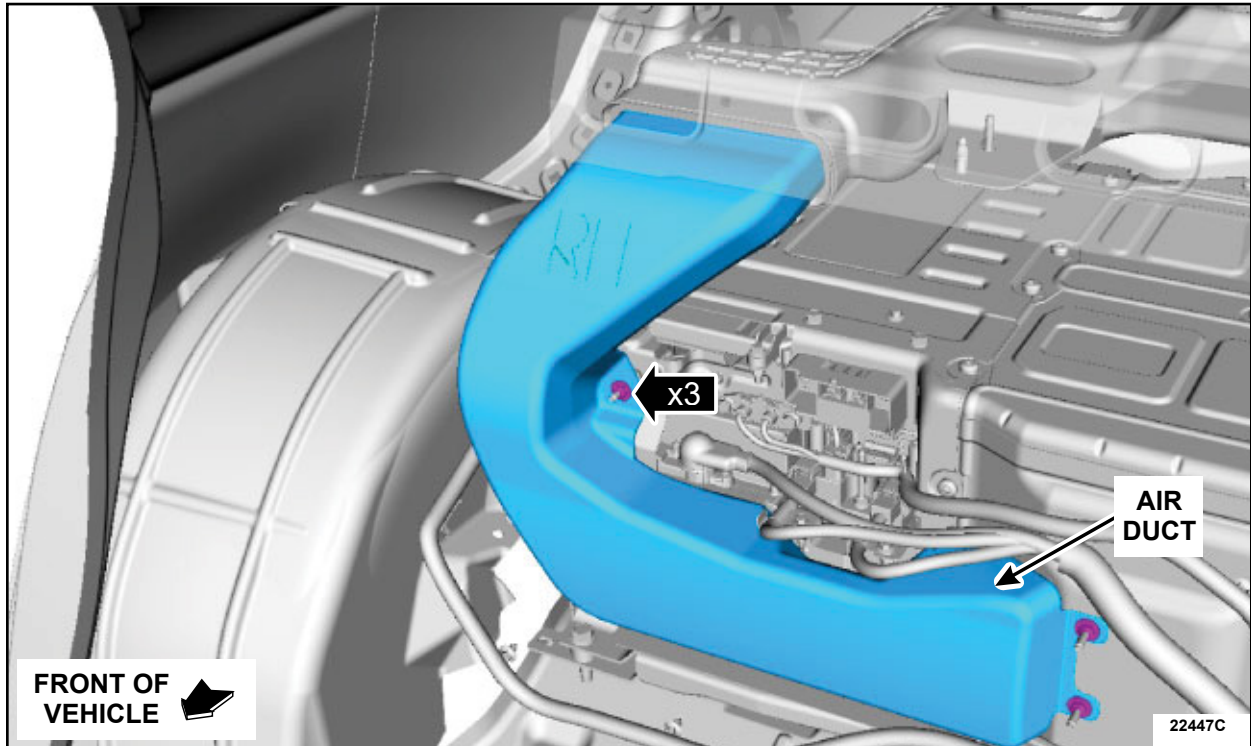

FIGURE 3
6. Remove the retainers and the air duct. See Figure 3.